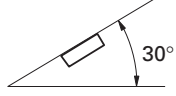

Fig. 2
- If installation angle exceeds 30° from horizontal, the unit might not give its optimum performance. (Fig. 2)